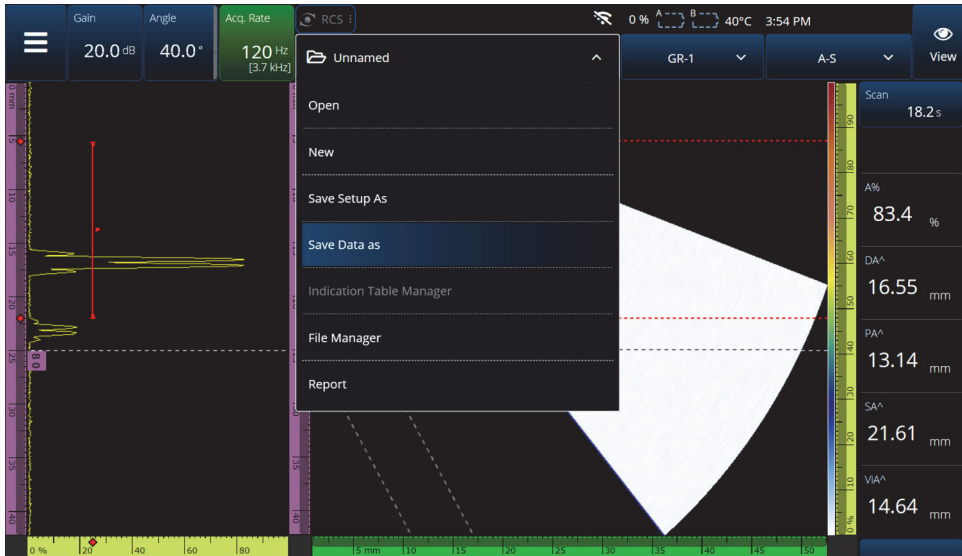
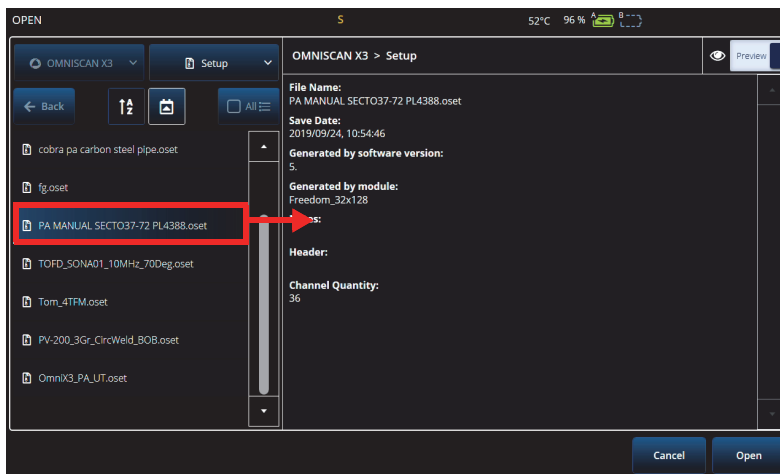

Figure 6-1 File menu
Figure 6-2 Open menu
Inspection setups and data are kept and organized using files, and presented in reports. You can use the **File** menu to access multiple file parameters, the **Report** tool, and the **File Manager** (see Figure 6-1 on page 191).
- To save your setup file, select **Save Setup As** on the **File** menu (see Figure 6-1 on page 191).
- To open a file, select **Open** on the **File** menu (see Figure 6-1 on page 191), and then choose the directory in which the file is located. You can open the setup file or data file by selecting the file type. You can also order the files alphabetically or by date using the **Filter** icon, and preview the selected file (see Figure 6-2 on page 192).